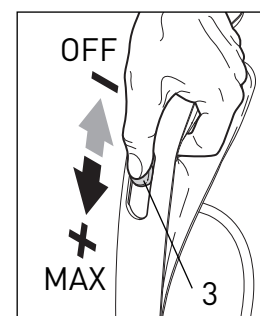

Figure 5
4. Slide the On/OFF switch (3) downward toward the MAX position - see figure 5.
Operating the Power Head - Figures 5, 6, 7, 8 & 11
C. You may adjust the suction control with the suction control slider (3, figure 5) as you vacuum different surfaces or when using the accessory tools. For optimal cleaning and brushing, operate the machine at the maximum suction power setting and push the power head slowly over the carpet.
To change a **floor tool** or **power head**, switch off the power and unplug the vacuum. Press the tool release button (14) and pull the vacuum out of the swivel neck (20). Insert the vacuum into the new tool and push down gently until it snaps into place. Plug the vacuum in and switch the power on. You may adjust the suction control with the suction control slider (3, figure 5) as you vacuum while using the power head or when using the accessory or floor tools.